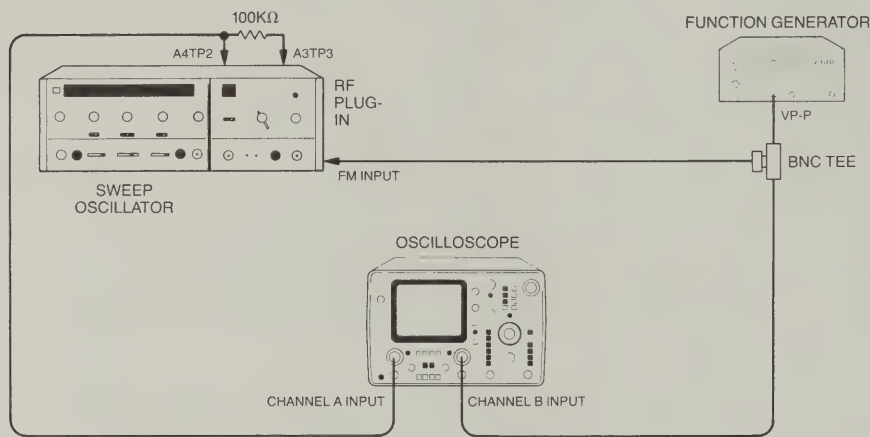

Figure 5-8. Function Generator Amplitude Adjustment Setup
- (1) Connect DVM with HIGH lead connected to A2TP1 and LOW lead to A2TP3.
- (2) Remove A5 SWEEP CONTROL Assembly. Press 8620C LINE switch ON. Allow the equipment 30 minutes to warm up.
- (3) Adjust A2 ZERO control A2R27 for DVM indication of $0.0000 \text{ Vdc} \pm 0.0001 \text{ Vdc}$.
- (4) Press 8620C LINE switch to OFF. Reinstall A5 SWEEP CONTROL Assembly.
- e. Connect equipment as shown in Figure 5-8 (100k Ω Resistor connected from A4TP2 to A3TP3).